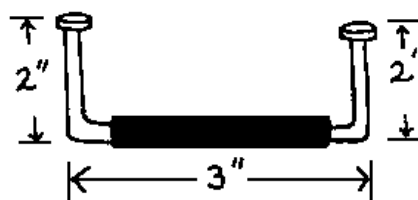

Figure 7
- Make the core by bending two 4 inch nails in the middle at right angles. Space the heads about 3 inches apart to form a horseshoe. Wrap together with two layers of electrical tape as shown in *figure 7*.